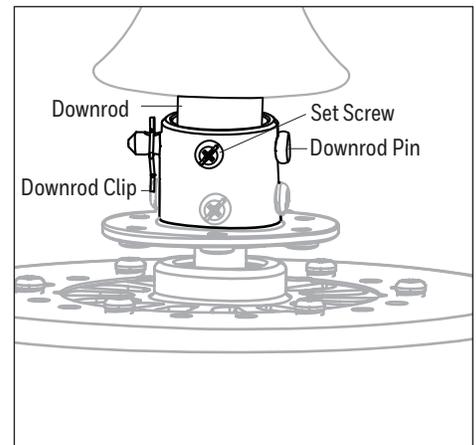

Figure 2.6
6. Slide the downrod into the yoke of the motor assembly. Align holes and install the downrod pin and downrod clip from the downrod pack and secure with the two set screws (Figure 2.6).